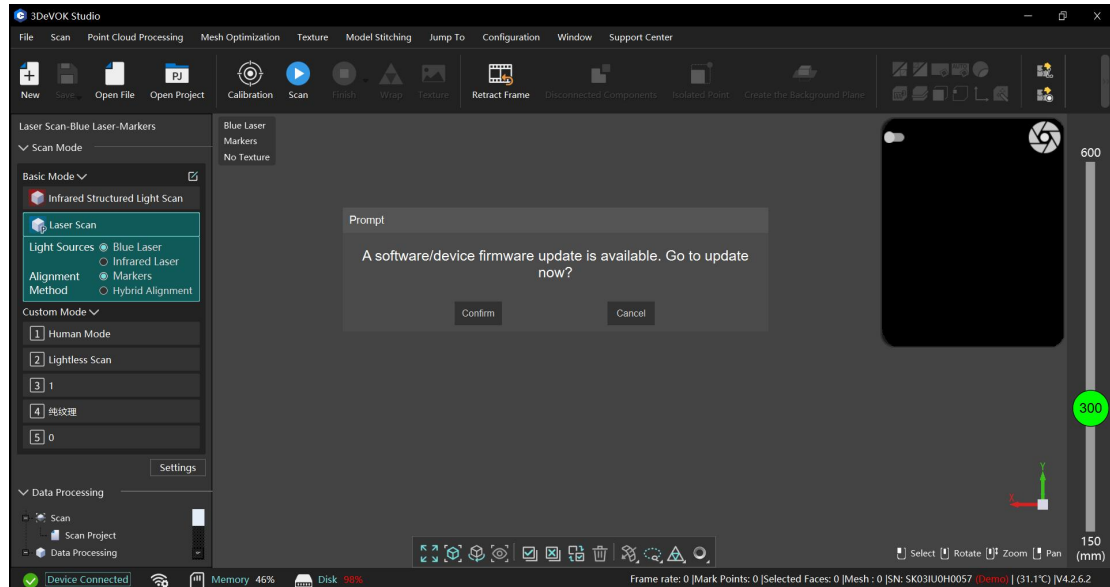

Figure 5-5 Firmware Version Check and Update Prompt
1. Connect the device. When online, the software will automatically check whether the device's firmware and screen have been updated to the latest versions, and display corresponding prompts, as shown in Figure 5-5.